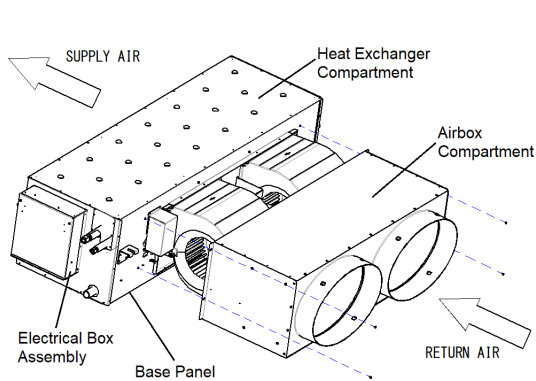

Fig. 20
- 1) Carefully remove the Airbox compartment by removing the (4) M6 bolts (Fig.20).
- 13) Carefully place the fan deck compartment with (4) M6 bolts, taking care not to damage the fan motor wiring. (Fig 20).